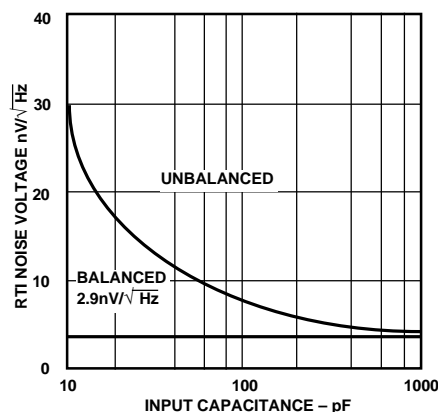

Figure 39. RTI Noise Voltage vs. Input Capacitance
As mentioned previously, it is good practice to balance the source impedances (both resistive and reactive) as seen by the inputs of the AD745. Balancing the resistive components will optimize dc performance over temperature because balancing will mitigate the effects of any bias current errors. Balancing input capacitance will minimize ac response errors due to the amplifier's input capacitance and, as shown in Figure 39, noise performance will be optimized. Figure 40 shows the required external components for noninverting (A) and inverting (B) configurations.